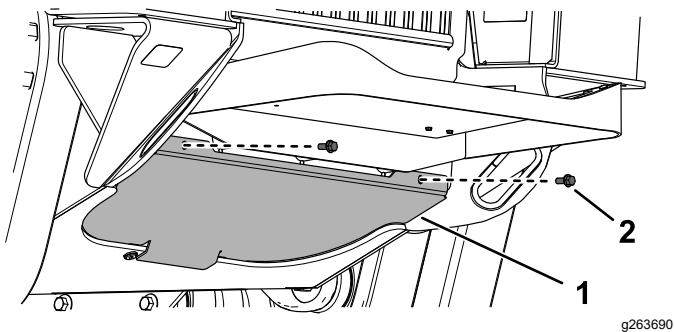

Figure 39
1. Remove the 2 bolts securing the bottom plate (Figure 39).